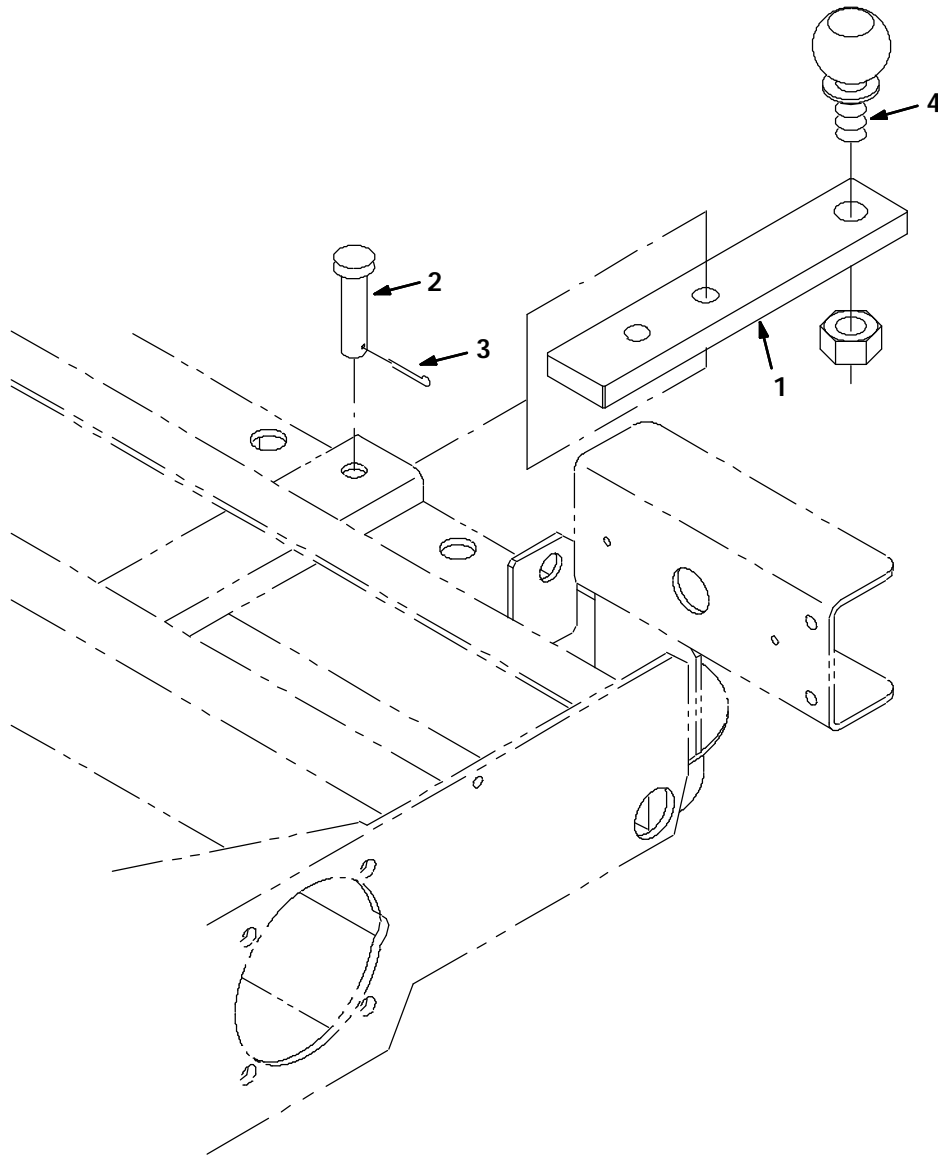

FIG. 1 - TRAILER HITCH KIT INSTALLATION
(Refer to FIG. 1)
1. Insert trailer hitch flat bar (1) in rear bumper of machine. (Refer to FIG. 1)
2. Slide flat bar (1) into slot in rear of machine and secure with clevis pin (2). (Refer to FIG. 1)
3. Secure clevis pin with hair cotter pin (3). (Refer to FIG. 1)
4. Attach hitch ball (4) using nut provided. Torque to 175 to 228 Nm (129 to 168 ft lb.).